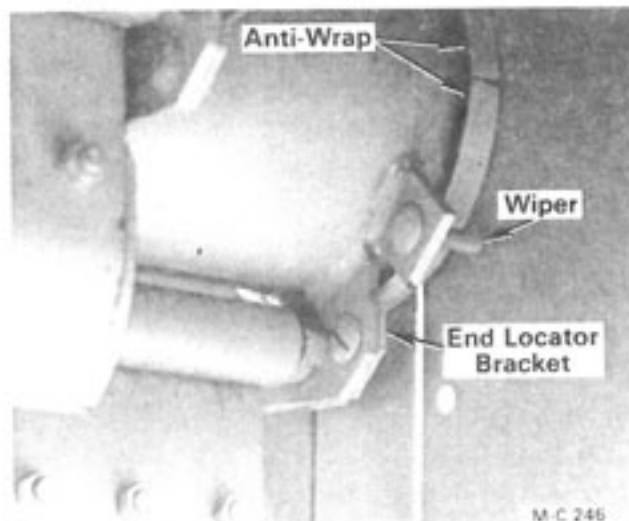

Figure 38A - Rear View
5. Check the position of the two wipers (180° apart) at the end of the rotor, see Figure 38A. They should be as close to the anti-wrap as possible without touching it. The wiper prevents material from building up on the anti-wrap. If necessary, loosen the wiper locknut and reposition the wiper in the adjusting slot.
7. Check the position of the two wipers (180° apart) at the end of the rotor, see Figure 38A.